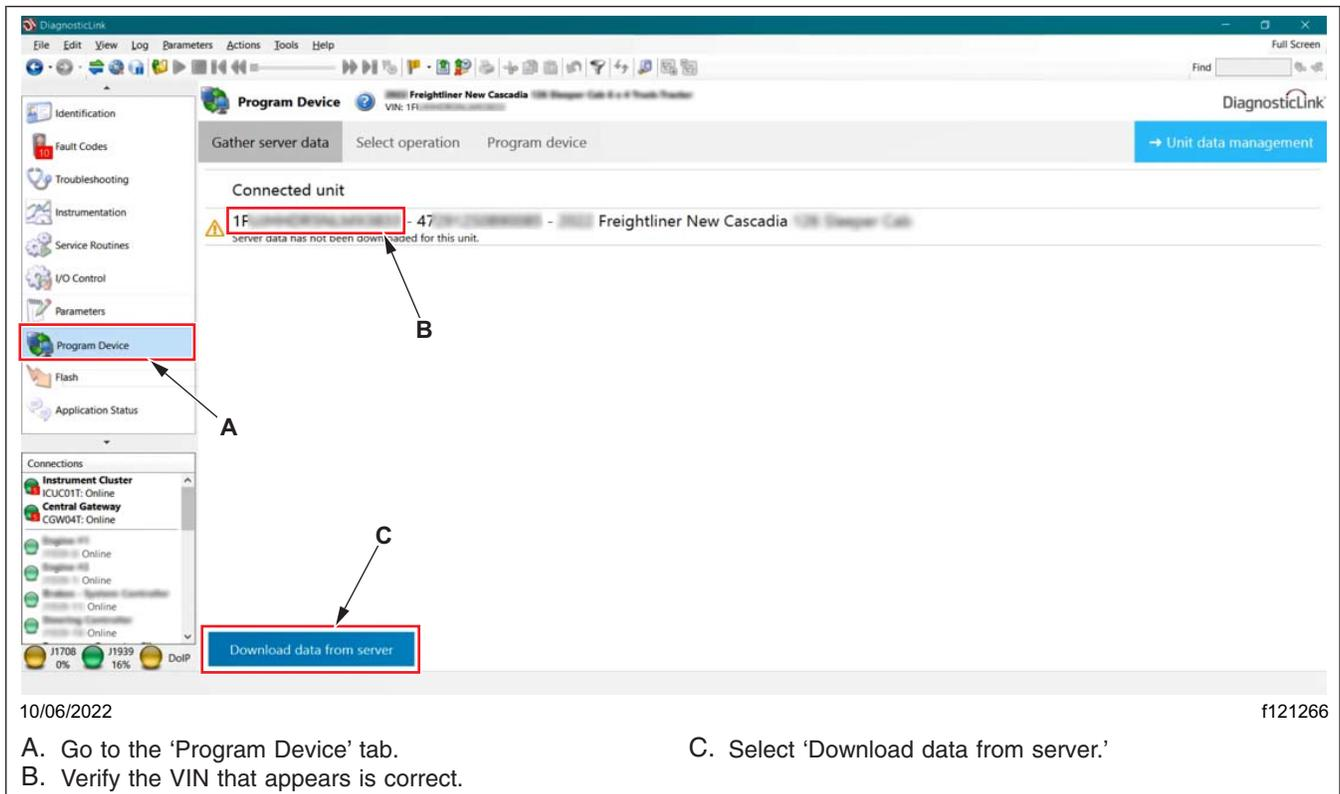

Fig. 30, Downloading the Data from the Server
- Go to 'Program Device,' and make sure that the vehicle identification number (VIN) that appears is correct. Then select 'Download data from server.' See Fig. 30.